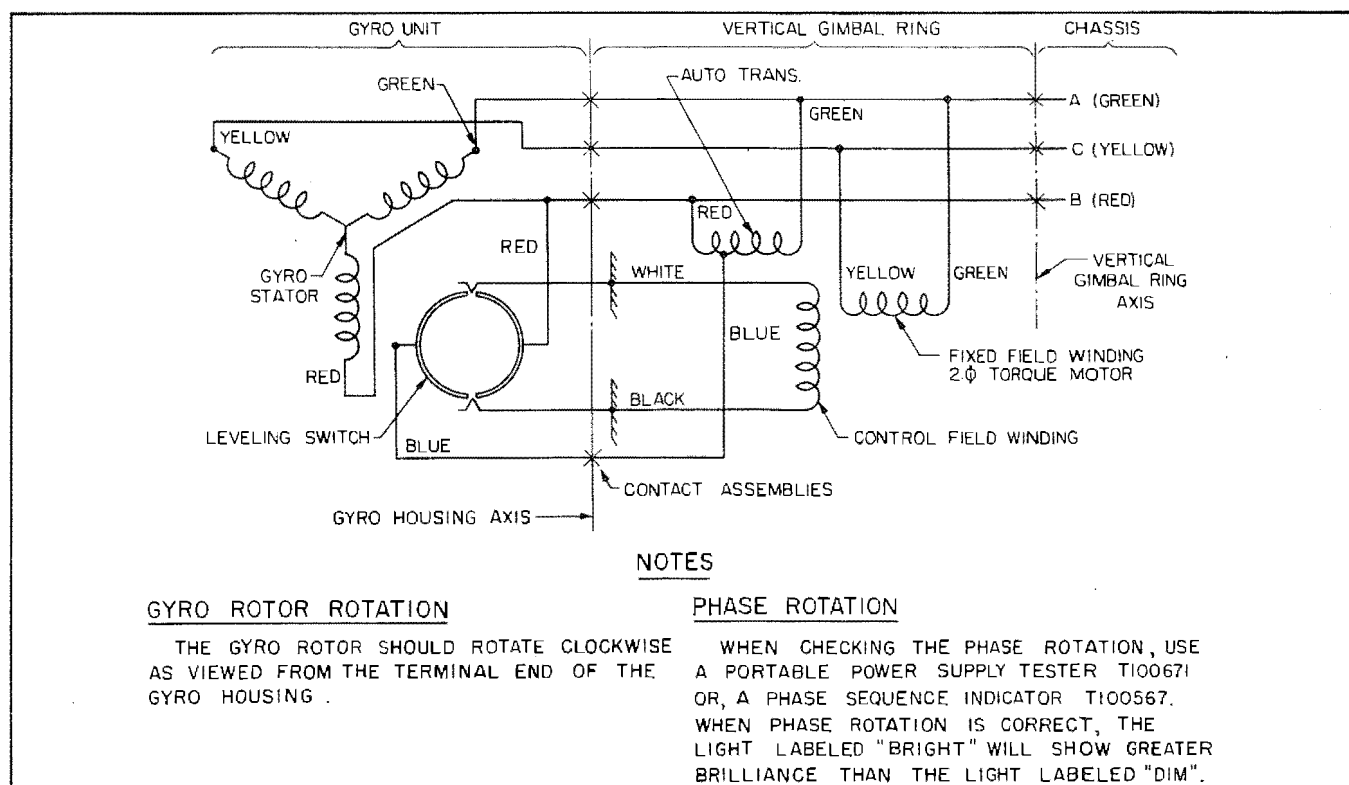

Figure 4 - Schematic Wiring Diagram of the AF Type C-1 and Navy (Stock No. R88-I-1006) Indicators
(3) The stator coil (8, figure 2) is made up of two interwoven windings, a fixed field winding, and a control field winding. (See figure 4 and 4A.) The fixed field winding is directly connected to the A-C phase of the 115-volt, 3-phase power supply and is, therefore, constantly energized.
(4) The auto transformer shown as 34, figure 3, is directly connected to the A-B phase of the power supply (figures 4 and 4A)
of the transformer and the other lead of the control field winding. (See figure 4 and 4A.) With the power thus supplied to the control field winding, the torque motor applies a torque to the vertical gimbal ring.
A power supply of 115 volts (± 10 volts), 3-phase, 400 cycles (± 40 cycles) ac is required to operate the Indicators. Power consumption of the Type G-1 and Navy (Stock No. R88-I-1006) Indicators is 20 watts running. Power consumption of the Type G-5 and Navy (Stock No. R88-I-1006-20 and R88I1006-020-000) Indicators is: starting, 40 watts; running, 20 watts; power factor, 0.5. The phase rotation of the power supply must be in accordance with instructions given in figure 4.